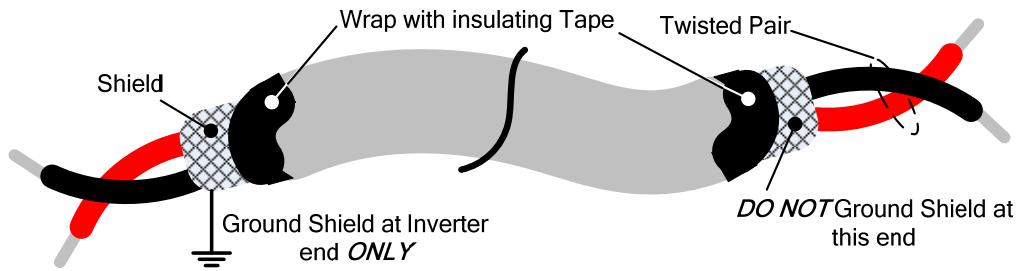

Fig. 3.4 Shielded Twisted-Pair
- (1) Separate the wiring for control circuit terminals from main circuit wiring for terminals (R/L1, S/L2, T/L3, U/T1, V/T2, W/T3).
- (2) Separate the wiring for control circuit terminals R1A-R1B-R1C (or R2A, R2C) (Relay outputs) from wiring for terminals S1~6, A01, A02, GND, DO1, DOG, +10V, -10V, A11 AND A12 wiring.
- (3) Use shielded twisted-pair cables (#24 - #14 AWG / 0.5 - 2 mm²) shown in Fig. 3.4 for control circuits to minimize noise problems. The maximum wiring distance should not exceed 50m (165 ft).